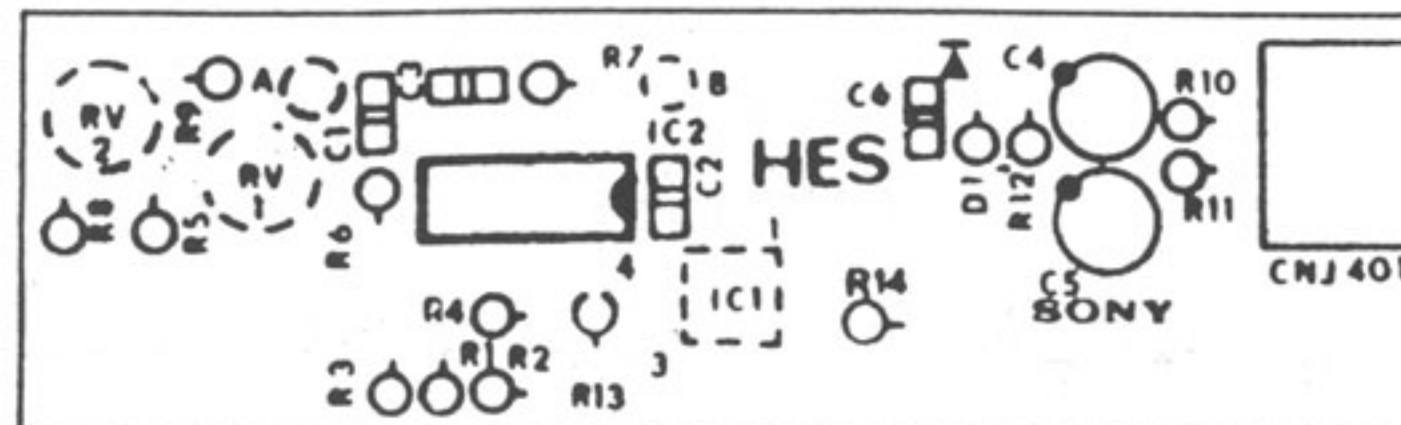

Figure 7-1. HES Board
- STEP 2.** Connect the negative lead of the DVM to TP1 on the TIB and the positive lead to TPA on the HES board, as shown in Figure 7-1.